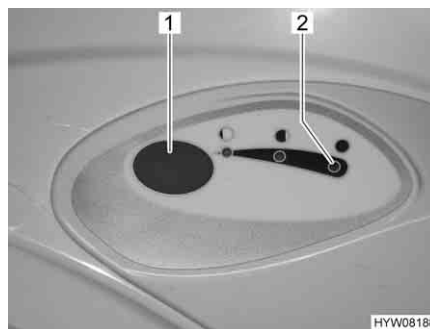

Fig. 257 Flush button/indicator lamp Thetford toilet
- For flushing, press the blue flush button (Fig. 257,1).
The indicator lamp (Fig. 257,2) goes on whenever the sewage tank has to be emptied.